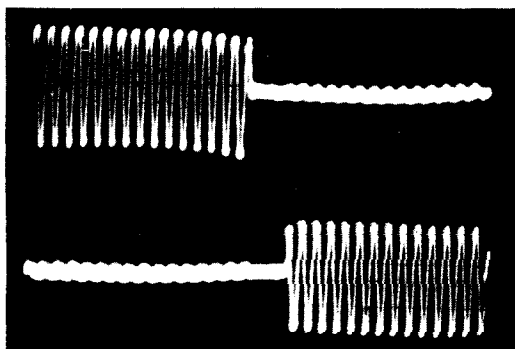

Fig. 7.2.3
- (d) Connect the two inputs of the dual trace oscilloscope to the left (red) and right (green) test points on the Optical Pre-amp card ②; a ground (black) test point may be found on the meter module ⑤.
- (e) Thread and play the stereo cell alignment film Cat. No. 97. Move cell laterally across the film plane until there is a minimum and equal crosstalk Left to Right and Right to Left (it should be possible to achieve better than 20 dB separation each way.) Note that it may be necessary to stop the projector to make these adjustments. The Cat. No. 97 has Left and Right signals alternating at about 15 millisecond intervals; adjust triggering of dual-beam oscilloscope to give traces similar to Fig. 7.2.3. When satisfactory results are obtained, lock the settings. If any misaligned films are encountered, the guide roller should be moved, not the cell alignment.